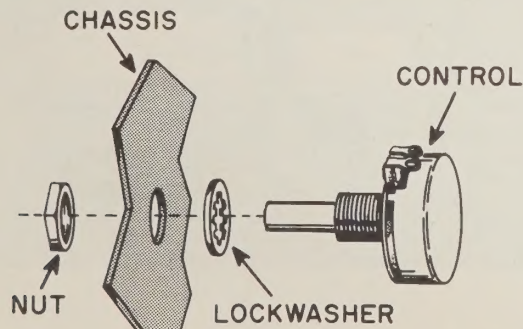

FIGURE 3. HOW TO INSTALL THE CONTROL
- ☑ Mount R-1, the combination REGENERATION control and S-1 OFF switch, as shown. Use a lockwasher and the large nut to fasten R-1 as shown in Figure 3.